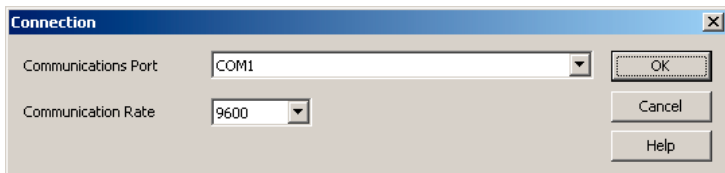

Figure 7-6
- DataView® will open and the **Connection** window will appear (see Figure 7-6).
- Click the **Configure Instrument** button and the **Connection** window will appear (see Figure 7-6).
NOTE: The instrument must be configured for the same communications rate specified in Figure 7-6. If it is not, then you must either select the corresponding rate or change the instruments rate. (see page 26 for selecting the baud rate.)